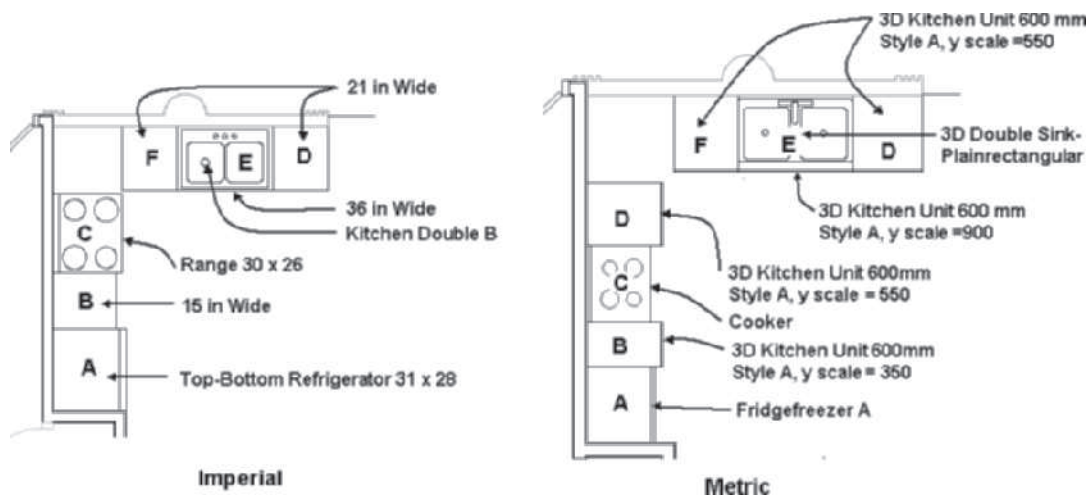

FIGURE 10.43 Placing appliances and cabinets in the kitchen
26. Select Content Browser from the Windows taskbar and open Design Tool Catalog—Imperial > Furnishing > Casework > Base Cabinet [Design Tool Catalog—Metric > Kitchen Fittings > Units 600 mm Deep]. Drag the 15 in Wide [3D Kitchen Unit 600 mm Style A] i-drop onto the Symbols palette. Select the 15 in Wide [3D Kitchen Unit 600 mm Style A] tool from the tool palette and insert the cabinet at B as shown in Figure 10.43. Metric only: Click in the Properties palette to edit the Y scale to [350].
27. Select Content Browser from the Windows taskbar and open Design Tool Catalog—Imperial > Equipment > Food Service > Range [Design Tool Catalog—Metric > Kitchen Fittings > Appliances] category. Drag the Range 30 × 26 [Cooker] i-drop onto the Symbols palette. Select the Range 30 × 26 [Cooker] tool from the tool palette and insert the range at C as shown in Figure 10.43. Press ESC to end the command.
29. Select the 21 in Wide [3D Kitchen Unit 600 mm Style A] tool from the tool palette, rotate -90 in the Properties palette, and insert the cabinet at the D location(s) as shown in Figure 10.43. Metric only: Click in the Properties palette to edit the Y scale to [550]. Press ESC to end the command.
31. Select the 36 in Wide [3D Kitchen Unit 600 mm Style A] tool from the tool palette and insert the cabinet (rotate -90) at E as shown in Figure 10.43. Metric only: Click in the Properties palette to edit the Y scale to [900]. Press ESC to end the command.
32. Select the **21 in Wide [3D Kitchen Unit 600 mm Style A]** tool from the tool palette and insert the cabinet (rotate -90) at **F** as shown in Figure 10.43. **Metric only:** Click in the Properties palette to edit the Y scale to [550]. Press ESC to end the command.
33. Select **Content Browser** from the Windows taskbar and open the **Design Tool Catalog—Imperial > Mechanical > Plumbing Fixtures > Sink [Design Tool Catalog—Metric > Kitchen Fittings > Sinks]** category. Drag the **Kitchen-Double B [3D Double Sink Plainrectangular]** i-drop onto the Symbols palette. Select the **Kitchen-Double B [3D Double Sink Plainrectangular]** tool from the tool palette, edit its elevation to **37 [950]** and its rotation to **-90**, SHIFT + right-click, choose the **Midpoint** object snap mode, and insert the sink at the midpoint of the 36" [900] wide base at **E** as shown in Figure 10.43. Select the sink and click the **Insertion offsets** button in the **Advanced** section of Properties. Edit the X offset to **1 [25]** for each of the 6 [5] view blocks. Click **OK** to dismiss the dialog box.
Start point or: (Select p1 as shown in Figure 10.43.)
Endpoint or: (Select p2 as shown in Figure 10.43.)
Start point or: (Select p3 as shown in Figure 10.43.)
Endpoint or: (Select p4 as shown in Figure 10.43.)
Endpoint or: (Select p5 as shown in Figure 10.43.)
Start point or: (Select p6 as shown in Figure 10.43.)
Endpoint or: (Select p7 as shown in Figure 10.43. Press ESC to end the command.)
45. Press Escape to clear selection. Create a crossing selection to include the objects from point A to point B as shown in Figure 10.43, right-click and choose **Isolate Objects > Isolate Objects**. Select **SE Isometric** from the **View** Cube. Select **Realistic** from the visual style flyout of the Visual Styles panel in the View tab. The Sink is not subtracted from the counter top.
Specify first corner point or [Chamfer/Elevation/Fillet/Thickness/Width]: (Select the endpoint of the sink at C as shown in Figure 10.43.)
Specify other corner point or [Area/Dimensions/Rotation]: (Select the endpoint of the sink at D as shown in Figure 10.43.)
(1) new mass element(s) created.
49. Select the counter at E shown in Figure 10.43, right-click, and choose Body Modifiers > Add from the shortcut menu. Respond to the workspace prompts as follows: